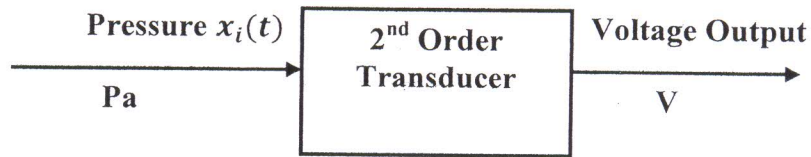

Fig. 1
- A) A Pressure transducer as shown in fig. 1 has a natural frequency of 30 rad/s, damping ratio of 0.1 and static sensitivity of $1.0 \mu\text{V}/\text{Pa}$. A step pressure input of $8 \times 10^5 \text{ N/m}^2$ is applied. Determine the output of the transducer and plot its output response.